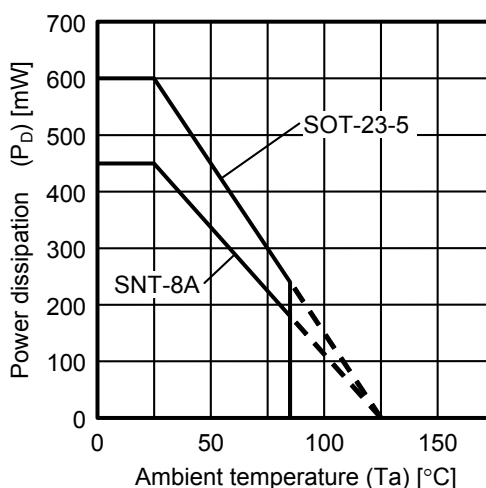

Figure 5 Power Dissipation of Package (Mounted on Board)
- Since this IC has a built-in power MOS FET, make sure that dissipation of the power MOS FET does not exceed the allowable power dissipation of the package. (Refer to Figure 5.) Generally, dissipation of a switching regulator can be calculated by the following equation.